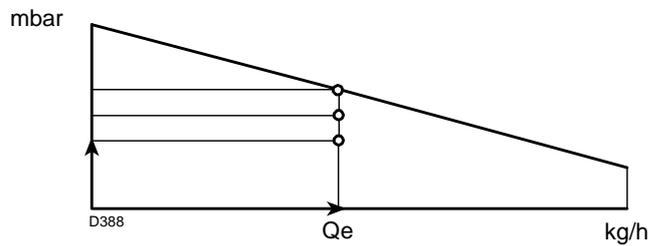

Fig. 4
- 3 In the firing rate range of the burner (Fig. 4), indicate the work point defined by:
- 4 Trace a vertical line from point A, (Fig. 4), and find the maximum pressure H₂ of the firing rate.
If H₃ is greater than H₁, as in Fig. 4, the burner can produce the delivery requested.